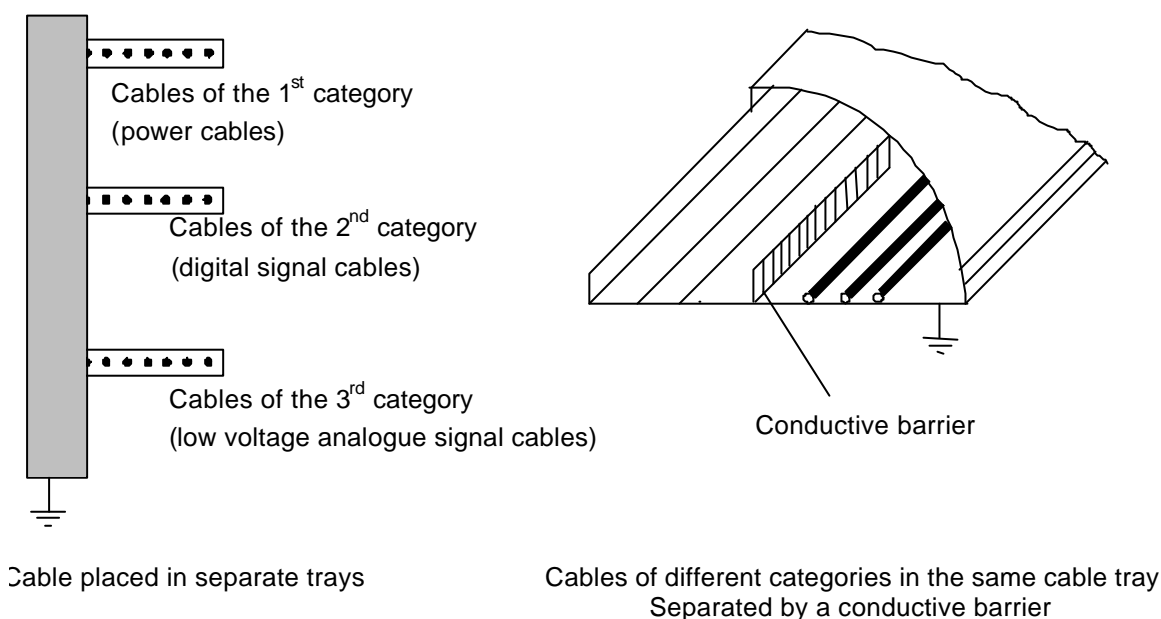

Fig.6: Layout of the cable trays
Separate cables that carry dc voltage with those of ac voltage using dividers (see Fig.6).
Separate the power cables from those of low voltage if possible, laying them in metallic cable trays connected to ground (see Fig.6).
It is also better to separate the ground conductor from the three phase power lines, avoiding using the same cable trays. If this is not possible, separate the two cable types with a barrier of conductive plates as shown in Fig.6.
If possible, isolate the ground conductor of the three phase power lines, avoiding putting them in the same cable tray. This is particularly useful when the power lines are noisy as it prevents capacitive coupling with the ground conductor. If this is not possible, separate the two cable types with a conductive barrier as shown in fig. 6.
- If there are power cables and signals inside the same cable tray, isolate one from the other with metallic separators as shown in Fig.6. The cable tray must be connected to ground outside the cabinet in order to avoid inductive coupling.